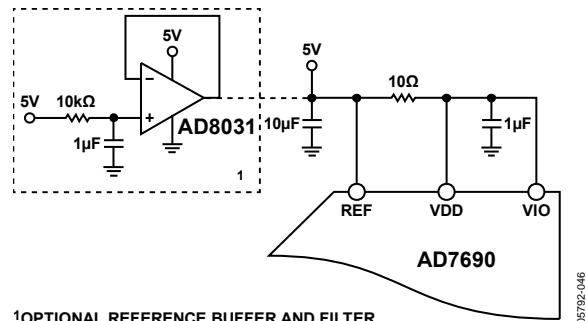

Figure 33. Example of Application Circuit
For simplified applications, the **AD7690**, with its low operating current, can be supplied directly using the reference circuit shown in Figure 33. The reference line can be driven by
- A reference buffer, such as the **AD8031**, which can also filter the system power supply, as shown in Figure 33.